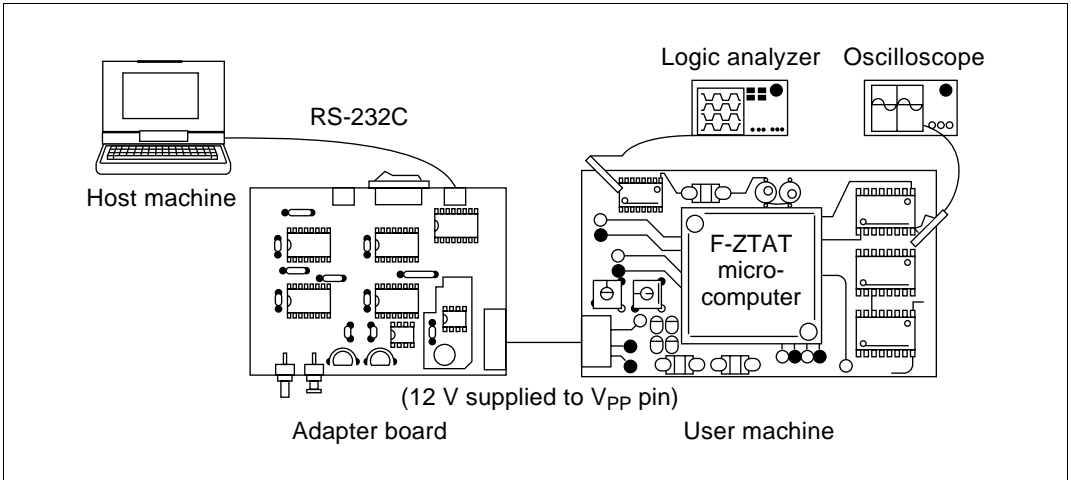

Figure 4.13 Application Program Startup
7. The F-ZTAT microcomputer in the user machine starts the application program when the V_{PP} pin has 12 V supplied to it (figure 4.13).